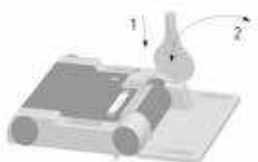

Fig. 7
7. After the switching angle has been set and checked, the blanking plug for the adjustment opening located at the rear of the adjustment tool must be inserted in the adjustment opening (1) and torn down by making lateral movements (2) with the tool (Fig. 7).